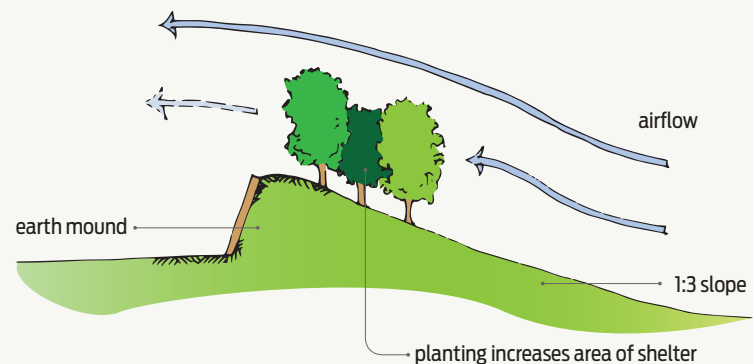

Figure 9 Earth mounding to provide shelter.
- creating earth mounds to deflect wind and provide downwind shelter – ideally the windward slope of the mound should not exceed 1:3 (see Figure 9). ◀